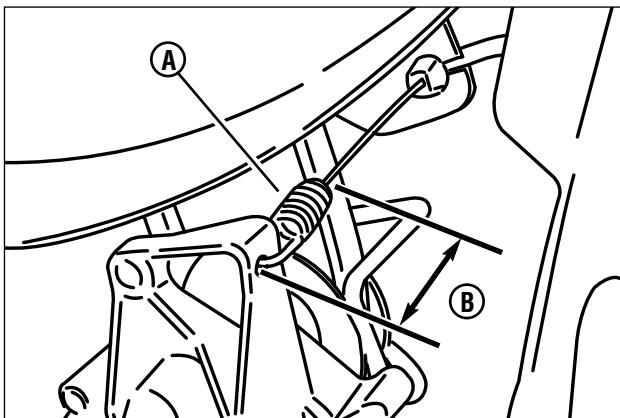

Figure 19: Measuring the disengaged transmission spring length
2. With the drive lever pulled fully back in the 'DISENGAGE' position, the spring (A, **Figure 19**) on the end of the wheel drive control cable should have no tension. Measure the overall length of the unextended spring (B).